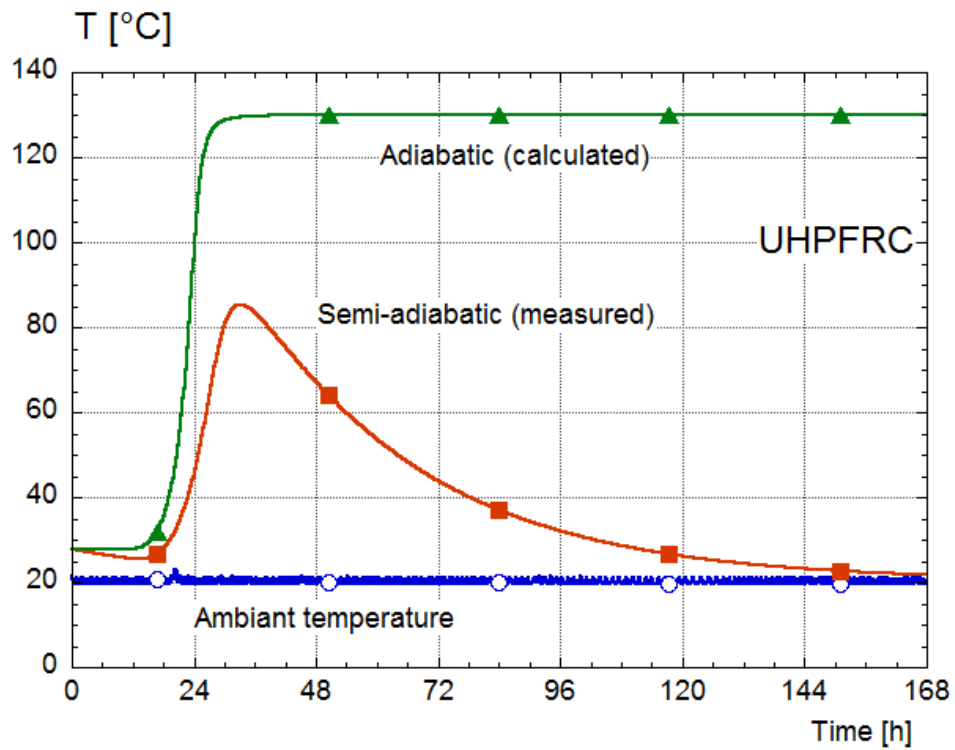

Figure 1
2. Determine the total Heat H_t released by the UHPFRC at 7 days from the adiabatic temperature evolution given in Appendix 1, Figure 1.